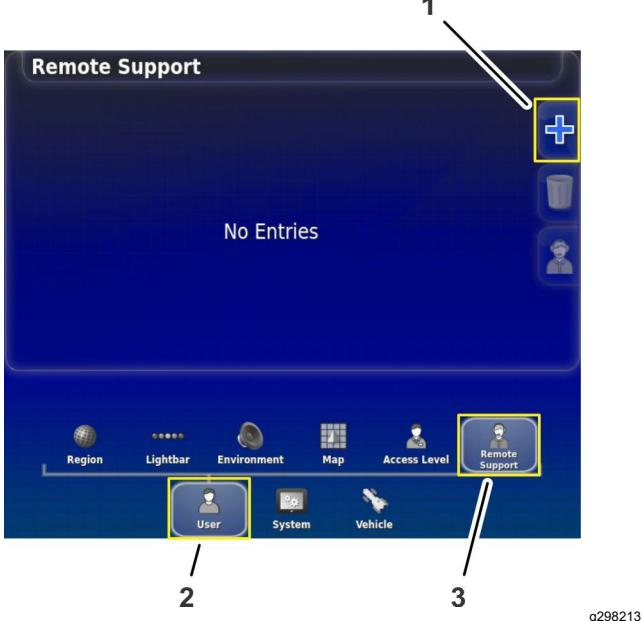

Figure 212
2. In the setup screen, press the USER icon, and press the REMOTE SUPPORT icon (Figure 212).
3. If no support desk entries appear in the remote support window, press the ADD SUPPORT DESK icon (Figure 212).